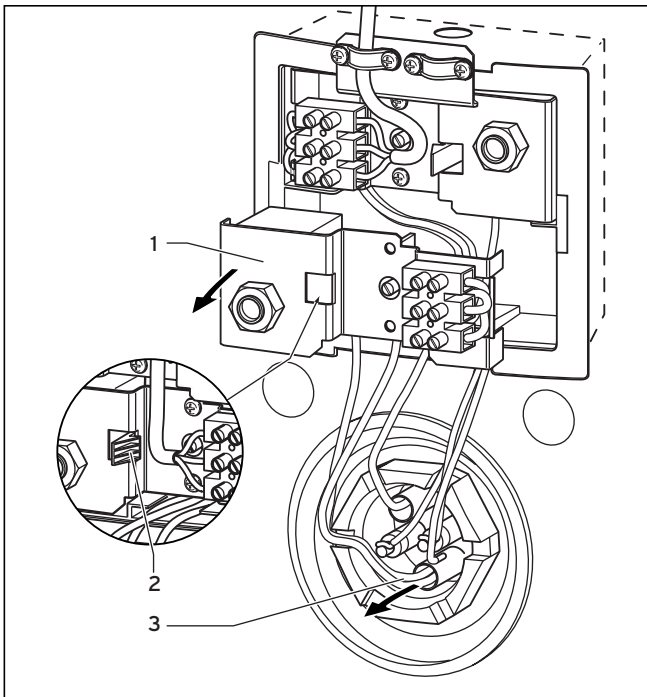

Fig. 5.22 Removal of the cylinder thermostat
- Overview removal of the cylinder thermostat, see Fig. 5.22 (if a Vaillant eBUS controller is used)